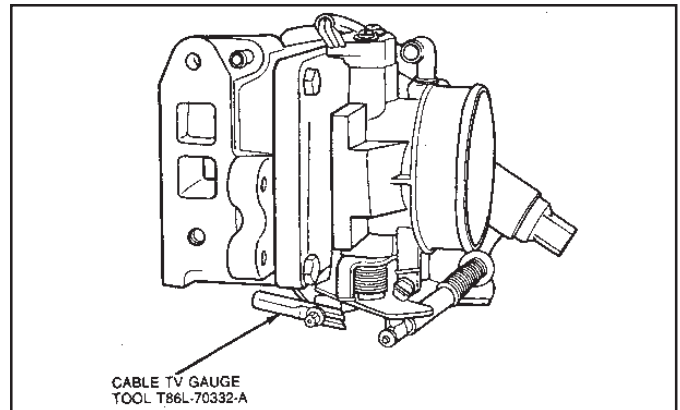

Figure 13
- 5.3 Insert tapered end of the tool between the crimped slug on the end of cable and plastic cable fitting that attaches to the throttle lever. **(See Fig. 13.)** Push in Cable TV Gauge Tool T86L-70332-A, or equivalent forcing the crimped slug away from the plastic fitting. Ensure gauge block is pushed in as far as it will go.